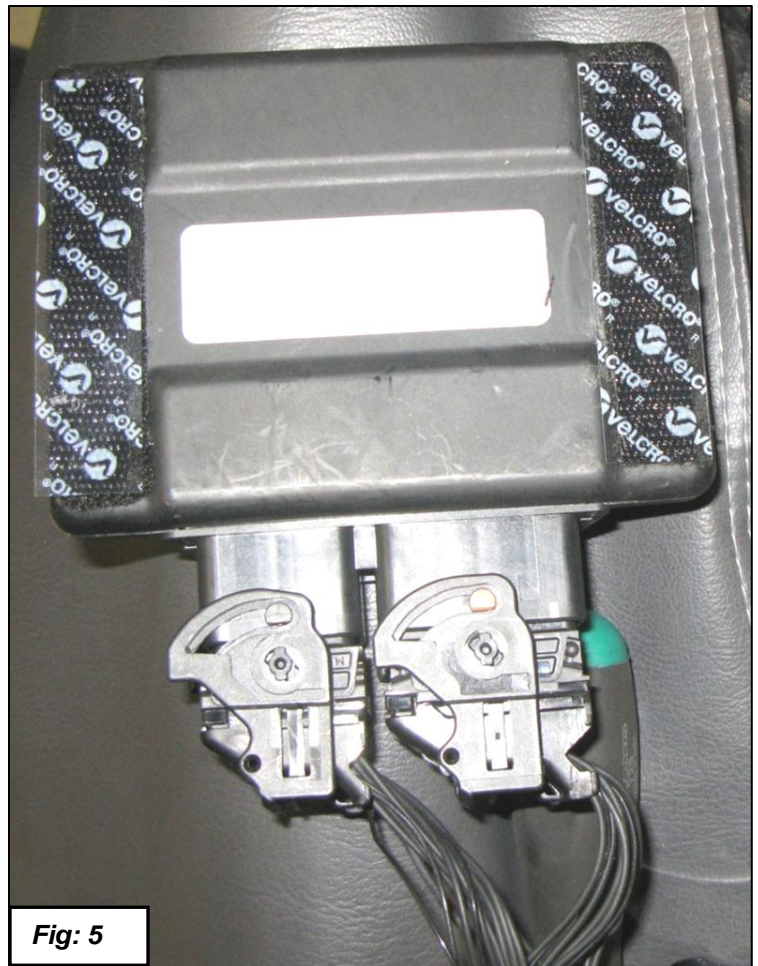

Fig: 5
6. Pull the rubber as onto the engine harness as shown in figure 5.
5. Attach Velcro strips using the double stick tape to the back of the DPT ECU. Attach the hard hook side of the Velcro to the box after cleaning the surface first. See figure 5.
6. Attach the connectors to the DPT ECU starting with the large one first. See figure 5.